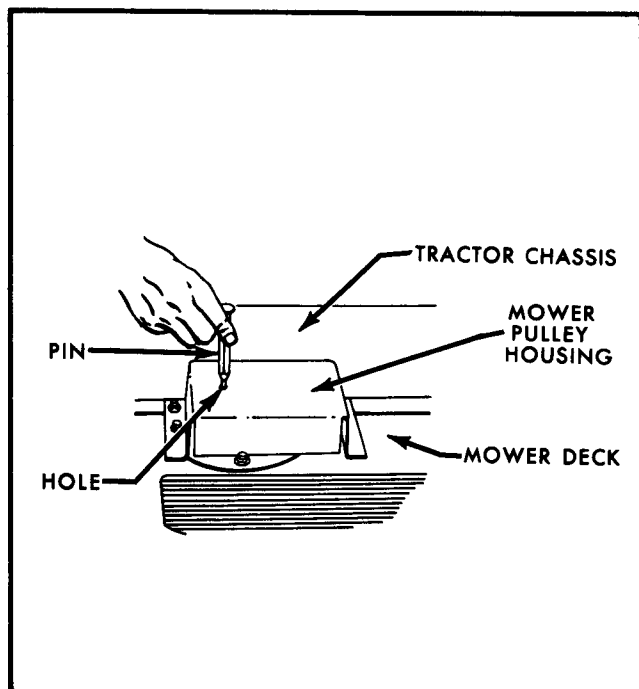

Figure 9. Locking Blade Pulley to Loosen Blade Nut
1. The mowing attachment uses two blades. It will be necessary to block the rear of the tractor up and disengage the blade clutch to apply the brake to the blade drive spindle. Insert a drift pin or other blocking device into the hole in the mower deck belt housing, adjacent to each of the blades, to prevent the blades from turning. The hole should be lined up with the hole in the blade spindle pulley so that the spindle will not turn while loosening the blade nuts. (See figure 9.)